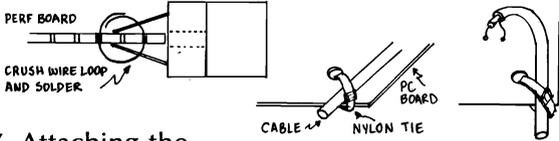

Figure 1.7. Attaching the Connector to the Perf Board      Figure 1.8. Providing Strain Relief
3. Tighten and then crush the loop with a pair of pliers to make it support the board. See Fig. 1.7.